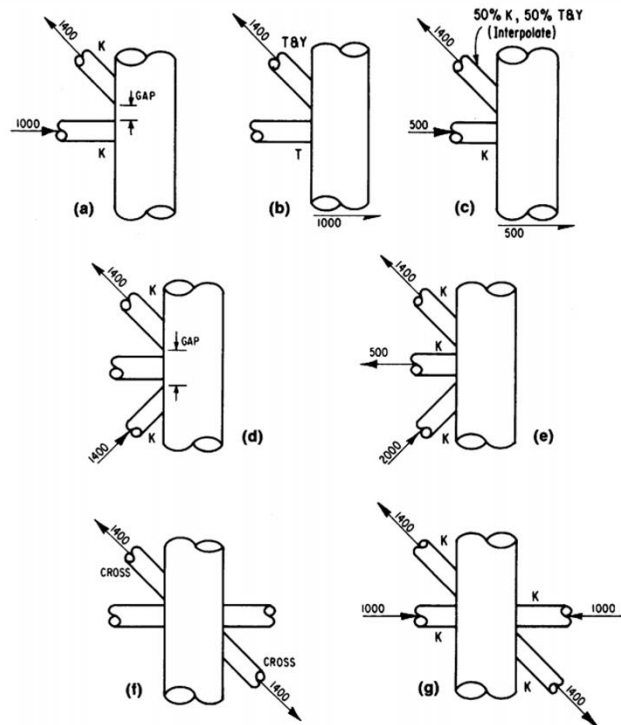

FIG. E.3-2
Joint classification as K, T & Y, or cross (X) should apply to individual braces according to their load pattern for each load case. To be considered a K-joint, the punching load in a brace should be essentially balanced by loads on other braces in the same plane on the same side of the joint. In T and Y joints the punching load is reacted as beam shear in the chord. In cross joints the punching load is carried through the chord to braces on the opposite side. For braces that carry part of their load as K-joints, and part as T & Y or cross joints interpolate based on the portion of each in total. Examples are shown in Figure E.3-2. See Commentary on Joint Classifications.